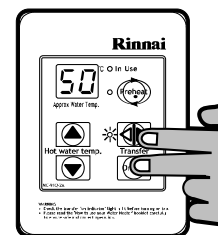

Fig. 7
**STEP 1:** For the controller in the KITCHEN ONLY, press and hold the 'Transfer' and 'On/Off' buttons simultaneously (Fig. 7) until a 'beep' is heard (approximately 5 seconds).